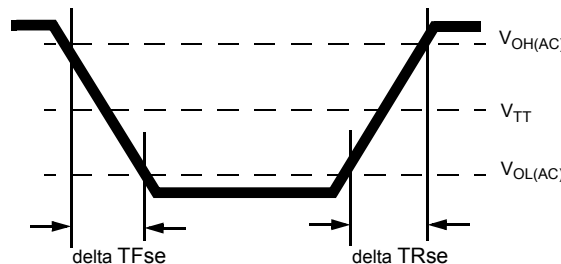

Figure 7. Single-ended Output Slew Rate Definition
With the reference load for timing measurements, output slew rate for falling and rising edges is defined and measured between V_{OL}(AC) and V_{OH}(AC) for single ended signals as shown in Table 16 and Figure 7.